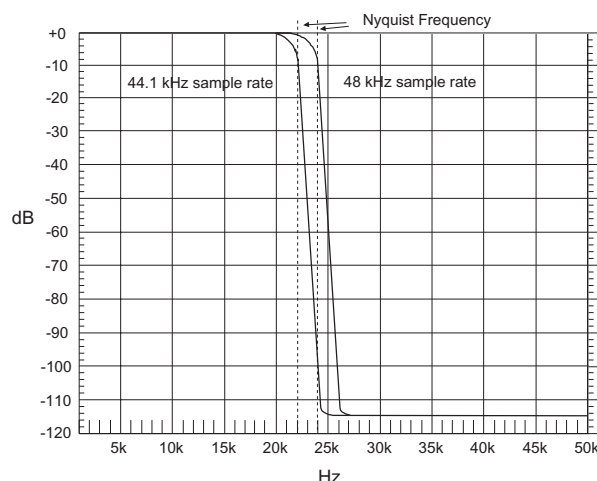

Figure 1, Frequency response of 0.45/0.55xFS filter
Today high quality audio A/D converters are typically based on the delta-sigma conversion principle with 64/128 times over sampling and internal digital filtering. According to the manufacturers of the converter chipset, this removes the need for an external anti-alias filter. However the filters normally implemented are so called 0.45/0.55 times the sample frequency (FS) filters. This means that the pass band goes to 0.45xFS, and the stop-band starts from 0.55xFS. In Figure 1 the frequency response is shown with 44.1 kHz and 48 kHz sample frequency.